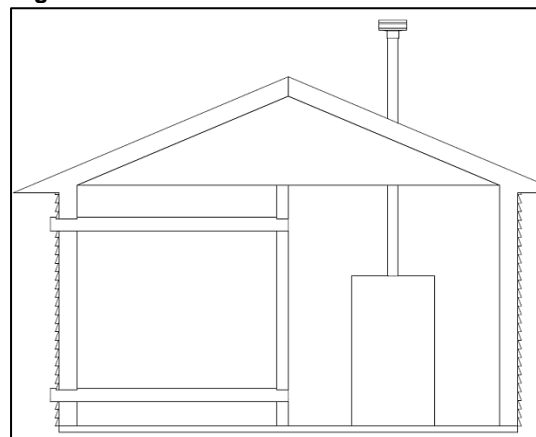

Figure 21 – Combustion Air Through Ductwork
2. If combustion and ventilation air is taken from the outdoors using a duct to deliver the air to the mechanical room, each of the two openings should be sized based on a minimum free area of one square inch per 2000 BTU/hr input. See Figure 21.